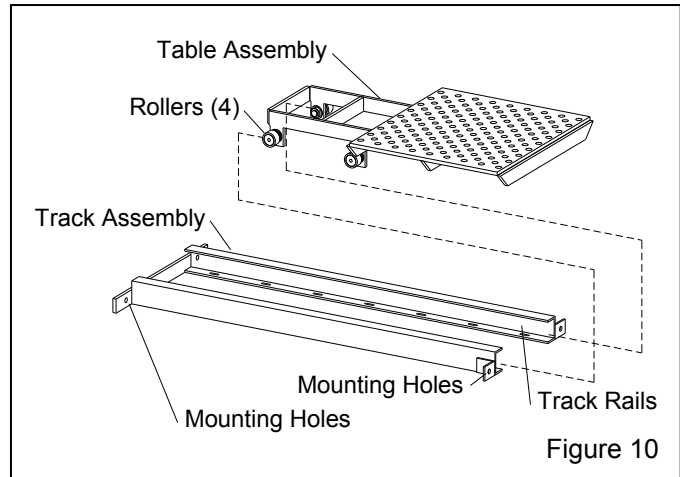

Figure 10
3.5.2 Combine the table assembly and track by sliding the table assembly rollers into the track channels, as shown in Figure 10.